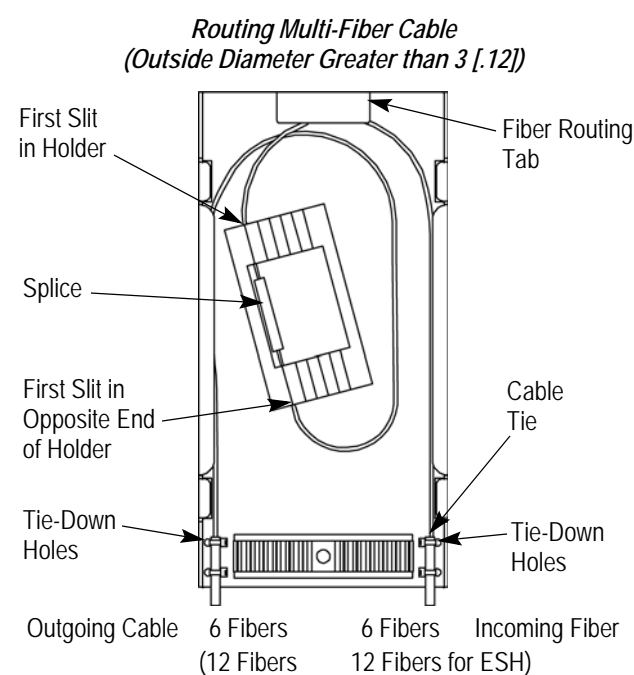

Figure 7
6. Fit the incoming fiber into the first (outermost) slit in the holder, and fit the outgoing fiber into the first (outermost) slit in the opposite end of the holder. Position the splice in the cutout of the holder. See Figure 7.